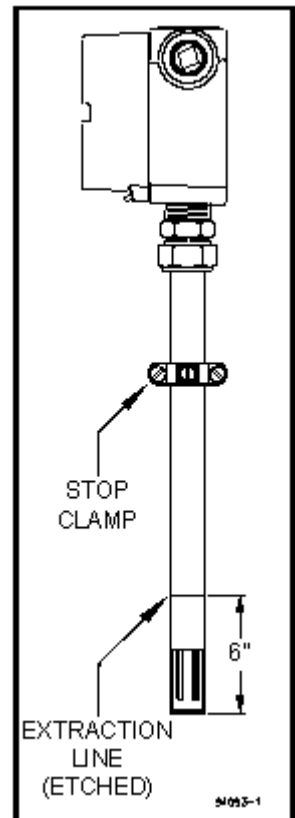
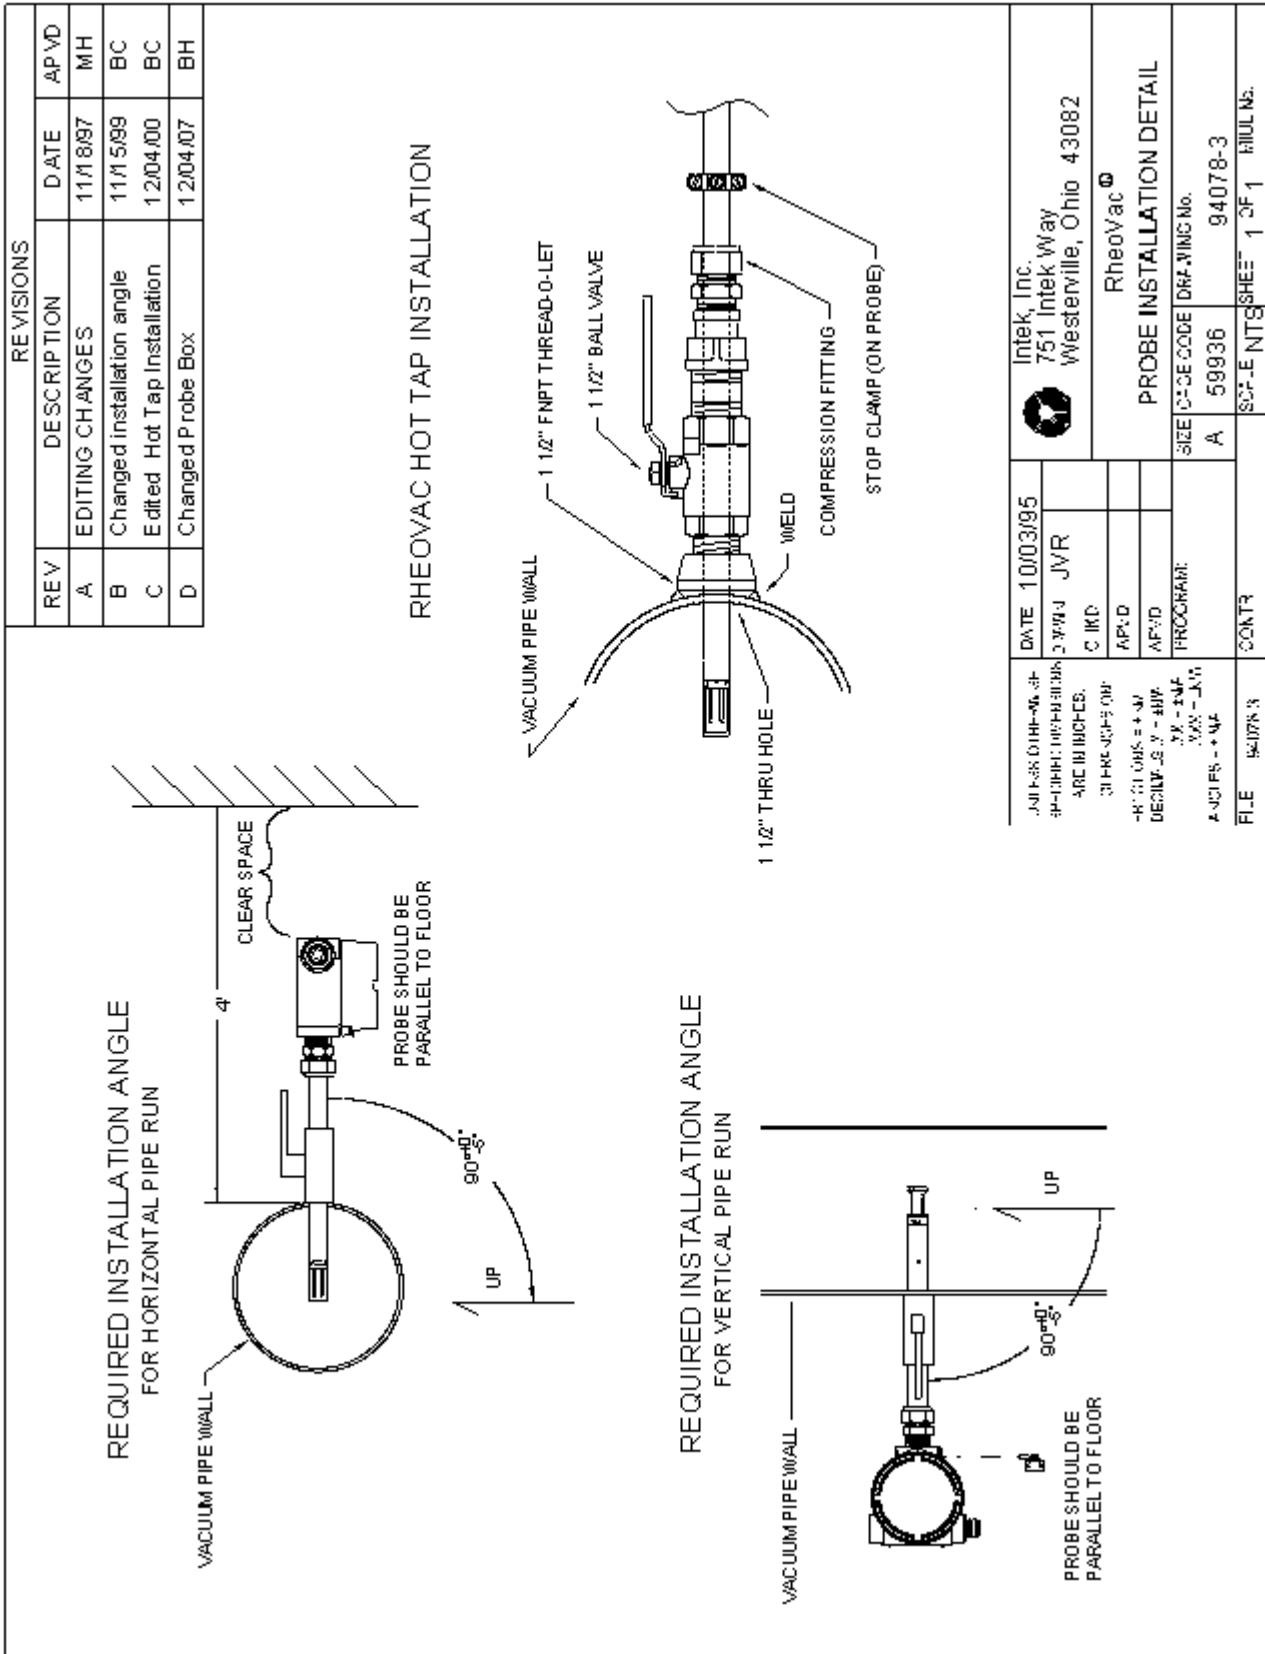

Figure 3
Figure 4 Transducer Installation Detail
- ▣▶ Check installation clearance. Each transducer probe is almost 3 feet (0.9m) long and the hot tap assembly is approximately 13 inches (0.33m) long, therefore, allow minimum clearance of 4 feet (1.3m) for probe installation. Be sure there are no obstructions around the vacuum line that will interfere with probe insertion. Figure 3 shows the proper insertion angle. **THIS ORIENTATION IS IMPORTANT FOR PROPER OPERATION.**
- ① Check hardware. Verify that the probe slides through the hot tap assembly.
- ② Check installation configuration. Make sure the probe is parallel to the floor (see Figure 4). Be sure location is accessible for probe removal and maintenance.
- ③ Check installation clearance. Verify there is a minimum probe insertion clearance of 4 feet (1.3m) between pipe surface and any obstruction.
- ④ Install the mounting hardware. Drill a 1½” through-hole, center the thread-o-let over the hole and weld it onto the condenser vacuum pipe (see Figure 4). Thread the hot-tap assembly into the thread-o-let. Use thread tape or pipe dope to seal the connection. (Alternate: weld thread-o-let to pipe wall, then drill a 1¼” hole in pipe wall using a hot-tap drill.)
- ⑤ It may be necessary to apply a force of about 23 lb (102 Newtons) to remove or replace the probe under plant operating conditions.
- ① Check proper installation direction. Each probe has a directional arrow on the junction box. Before installing the unit, note proper flow direction. This is important to instrument operation.
- ② Check serial number (S/N). If more than one *RheoVac* unit has been purchased, make sure the first five digits of the serial numbers of the probe(s) match the first five digits of the serial number of the main processor unit. The electronics and up to three probes are a matched set. Mismatched components will not work correctly. The dash number on the probe S/N is the probe number shown on the display. Record the probe number and installation location for future reference.
- ③ Verify stop clamp location (see Figure 3). A stop clamp is attached to each probe as an indication of its insertion depth. It is important that the stop clamp is securely in place to position the sensors in the correct location and to ensure that the probes do not contact the opposite pipe wall. Contact with the pipe wall could damage the probe. The clamp's location was determined based on your submitted pipe diameter, as shown in SECTION 6.2, and is marked with a groove on each probe shaft. Refer to this mark if a stop clamp is inadvertently moved. The two metal probe tips should be in the middle of the pipe.